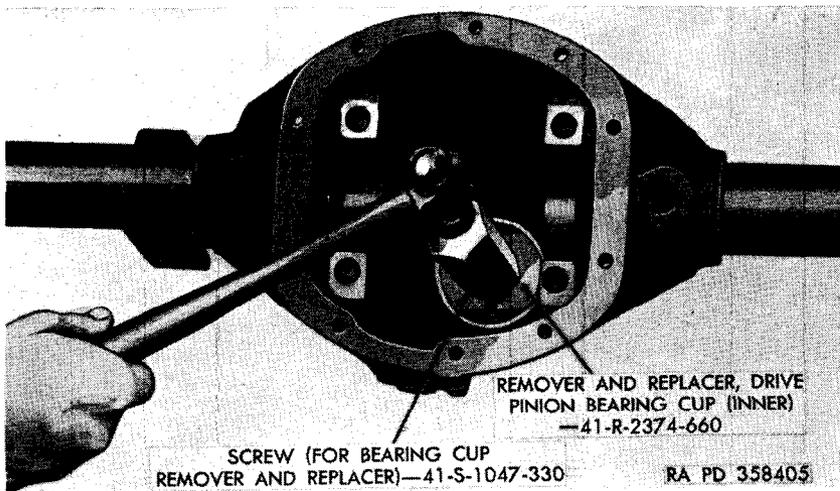

Figure 73. Replacing drive pinion inner bearing cup.
c. *Drive Pinion Bearing Cup Replacement* (fig. 73). Remove the drive pinion inner and outer bearing cups (AA and EE, fig. 65), using remover and replacer 41-R-2374-660 for inner drive pinion bearing cup and remover and replacer 41-R-2374-665 for outer drive pinion cup. To install new drive pinion bearing cups, use appropriate remover and replacer. Place the original thickness of large and small drive pinion bearing shims (BB and DD, fig. 65) between the drive pinion bearing cups and axle housing. Tap the drive pinion bearing cups lightly around the entire circumference until flush with the shoulder in axle housing.